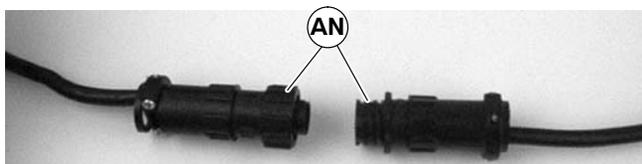

Figure 24
3. For DC variable speed motor, unplug motor cord at disconnect (AN of Figure 24).